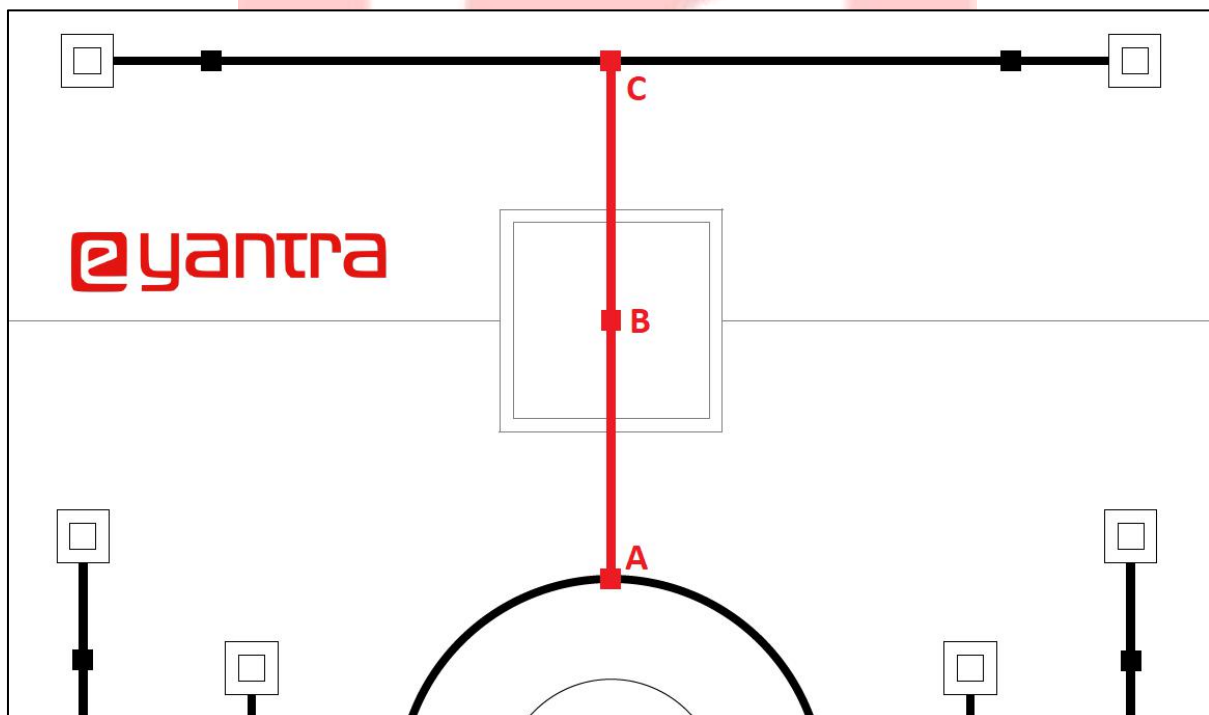

Figure 1: Progress Task Arena
In this task you have to program the robot and lift mechanism such that robot traverses the highlighted path shown in Figure 1. Teams have to program the robot that starts from point A, follows the line, enters the lift and reaches till point C and then comes back to point A.
- ❖ Once the robot enters the lift, the lift should move upward till it reaches the top position. Then the robot should follow path marked in red in Figure 1 till point C.